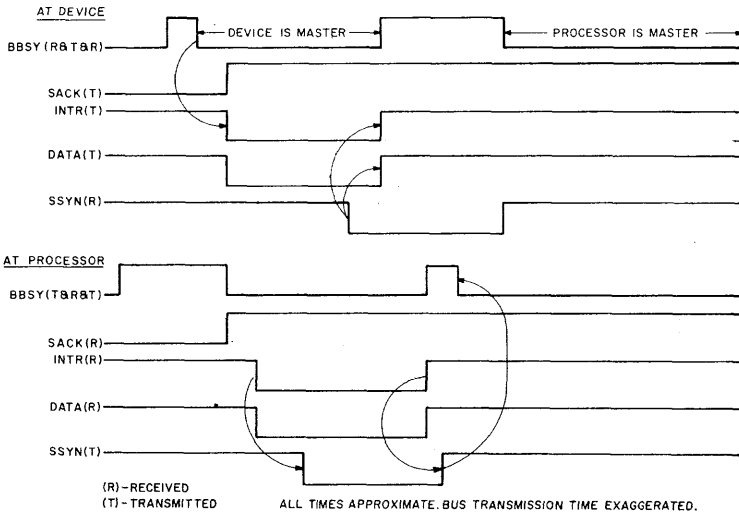

Figure 1-7 INTR Timing Diagram
1.3.2 Interrupt Transaction (See Figure 1-7)